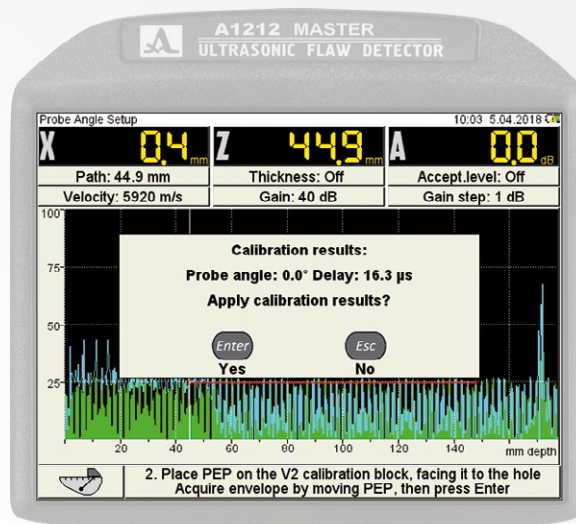

Figure 13
- to accept the calibration results press **Enter** or to cancel them press **Esc** (Figure 13).